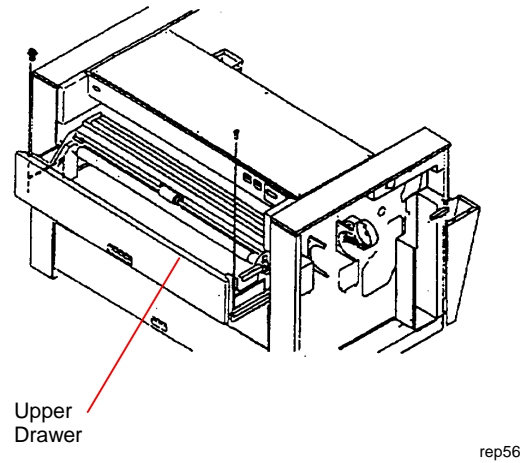

Figure 2. Removing the Upper Drawer
4. (Figure 2): Remove the screws (two per rail) that secure the Upper Drawer to the Rails.